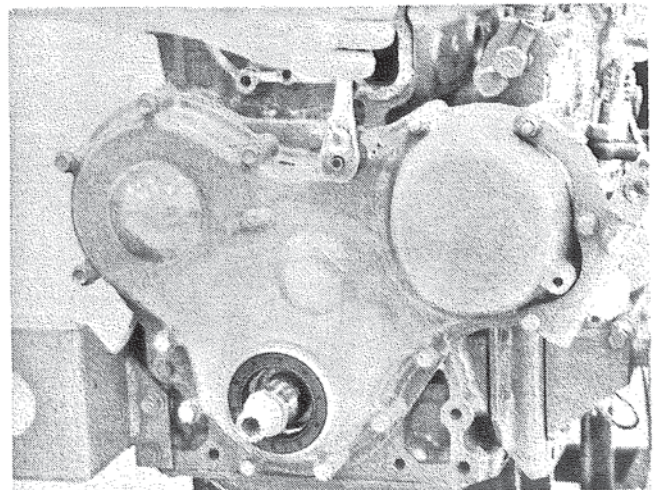

Figure 10. Removing Timing Gear Cover.
18. Remove capscrews securing timing gear cover. Figure 10. Remove cover from engine.